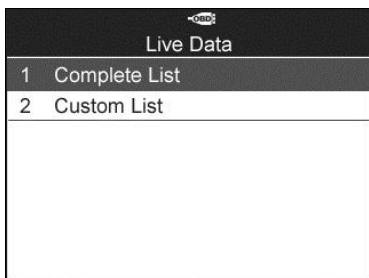

Figure 6-9
- 1) To view customized PID data, use the **UP/DOWN** scroll button to select **Custom List** from **Live Data** menu and press the **Y** button (*Figure 6-9*).